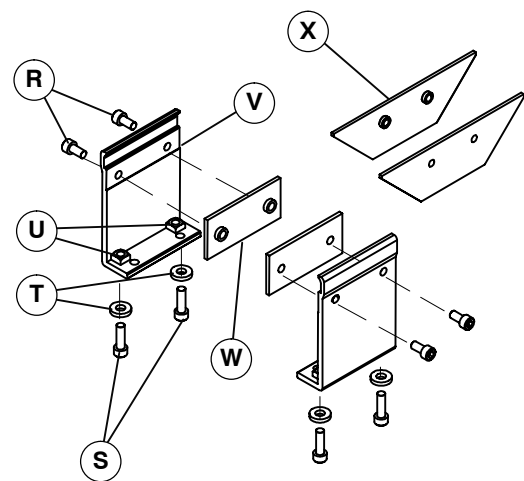

Figure 8
1. Typical mounting bracket components (Figure 8)
2. Attach clamp plate (W or X of Figure 8) to stand mounting bracket (V) with two screws (R). Do not tighten screws.